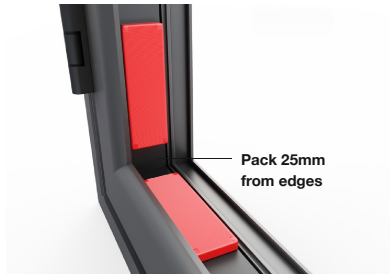

Figure 4.1. Pack 25mm from edges.
3. Fit PURGS04 glass supports as shown in Figure 4.1 for positioning and locations. When establishing the correct depth of the glazing location packer, make sure there is a minimum 1mm clearance. To meet PAS24:2012, all locations must be packed as shown in the Packing Details section.